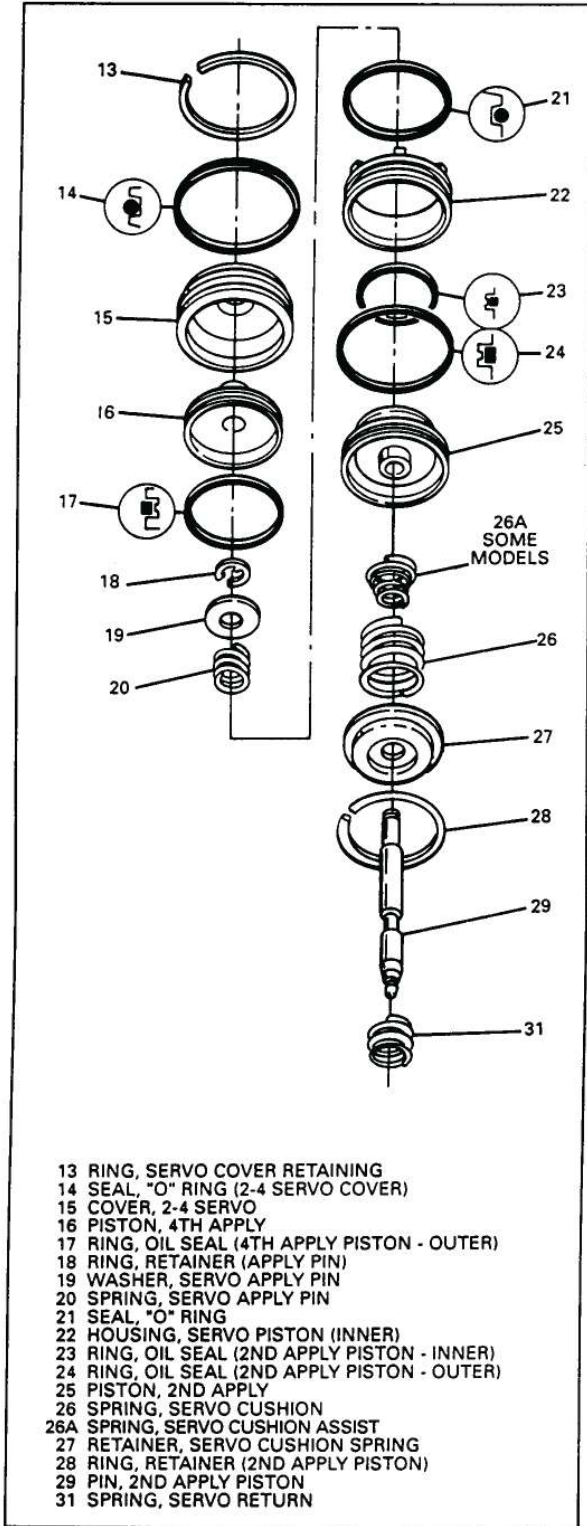

Figure 203
2. Assemble the 2-4 servo assembly as shown in Figure 203.